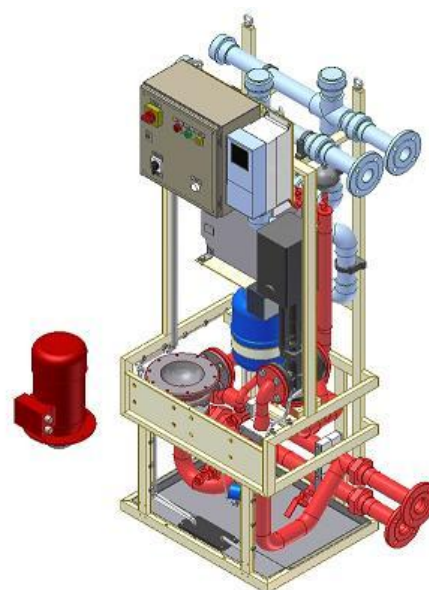

Figure 4.2-1
11. Remove the bolts and nuts from the pump motor flange. Therefore leaving the pump housing in place (Figure 4.2-1).